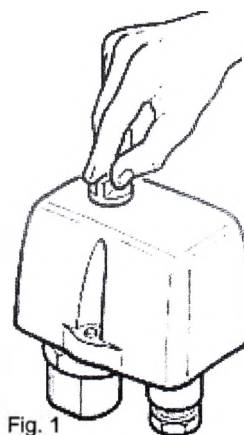

Fig. 1
- The main switch is over the pressure switch (Fig.1);
- Turn the switch to position "0" (Fig.1);
- Connect the power and put the compressor to operate turning the switch in position "1" (Fig.1);